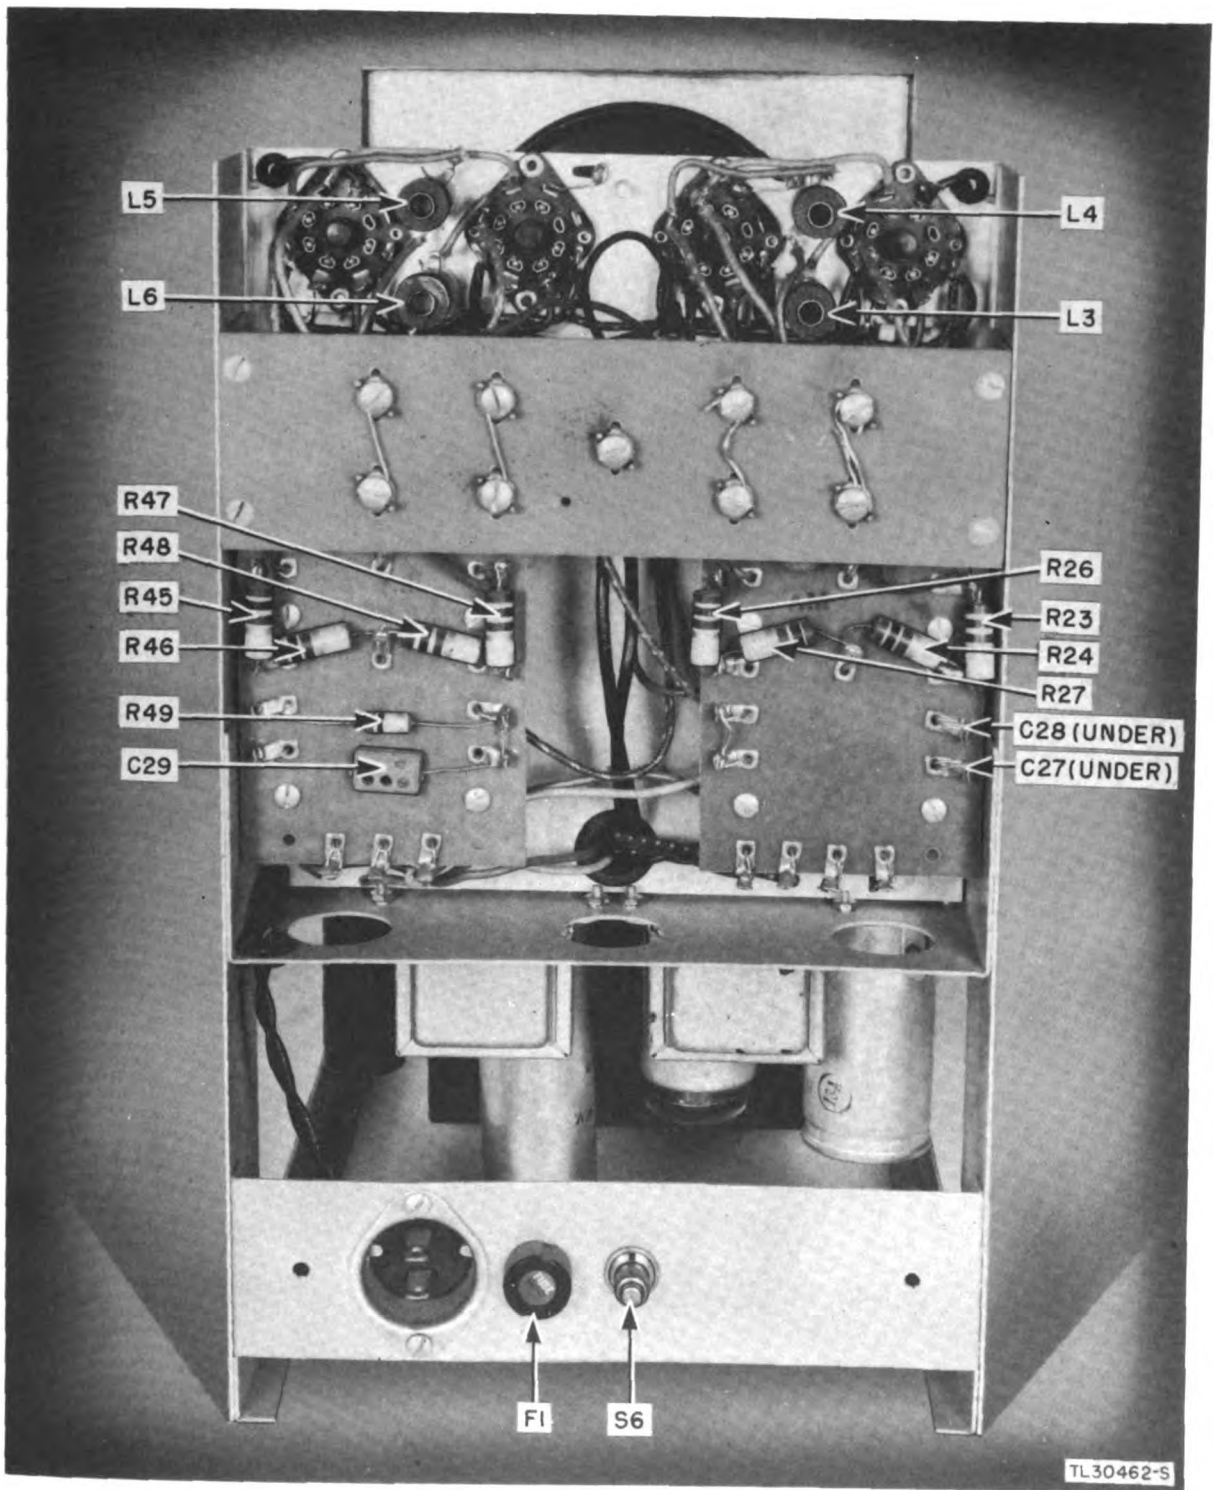

Figure 25. Rear of chassis.
a. Trouble-shooting Data. Figures 25, 26, 27, and 28 at the end of this section show the physical location of the components on the chassis. In addition the block diagram (fig. 9), the complete schematic diagram (fig. 24), and the various partial schematic diagrams (figs. 11, 12, 19, 20, 21, and 22) will be helpful in trouble shooting. Figure 24 shows the d-c voltages which should be present at various points in the circuit.
(1) If no spot appears when the oscilloscope is turned on, turn both position controls over their whole range before concluding that no spot is present. Some troubles unbalance the positioning circuits and cause the spot to be deflected clear off the screen. In some cases, however, the range of the position controls may not be sufficient to bring the spot onto the screen.
(2) If no sweep appears on one range setting of the COARSE FREQUENCY control, try all other ranges.
(3) If no sweep appears on any of the fre-
c. Hold the interlock switch S6 (fig. 25) closed manually; after about 30 seconds, measure the voltage between pin 8 on tube V16 and the chassis with a d-c voltmeter.
f. Adjust the coils and attenuator capacitor in the following order for least distortion of the square wave on the screen: C2, L4, L3, L2, L1, (figs. 25 and 27).
h. Turn up the intensity until the return trace is visible on the screen. If this is impossible, disconnect one end of the capacitor C29 from the terminal board on the rear of the chassis (fig. 25).
i. Adjust coils L6 and L5 (figs. 25 and 27) for least distortion at the end of the pattern on the screen where the return trace starts.